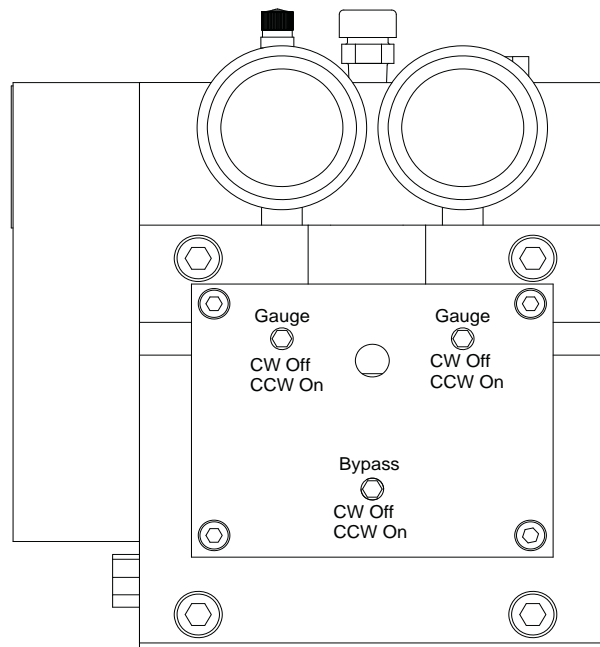

Figure C.5 Bypass Drawing
3. Open the manual bypass located on the front face of the module. Refer to Figure C.5.